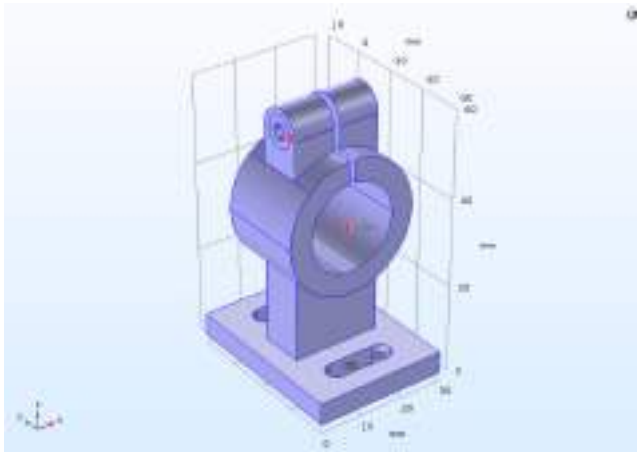
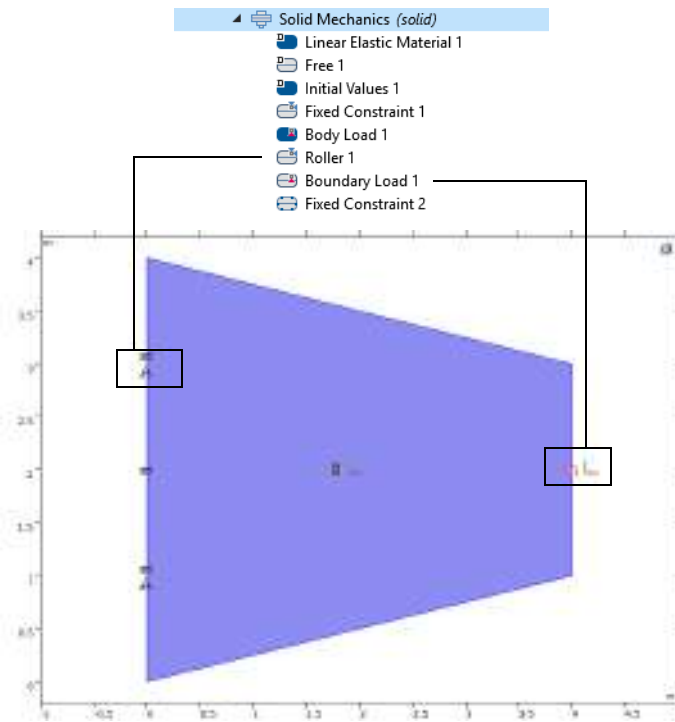

Figure 3-10: Example of Boundary Load physics symbols as displayed in the COMSOL Multiphysics model “Deformation of a Feeder Clamp”.
Figure 3-11: Example of Roller and Boundary Load physics symbols as displayed in the COMSOL Multiphysics model “Tapered Cantilever”.
- 4 When adding the boundary, edge, or point (a geometric entity) to the **Selection** list in the feature **Settings** window, the symbol displays in the **Graphics** window. See Figure 3-10 and Figure 3-11.